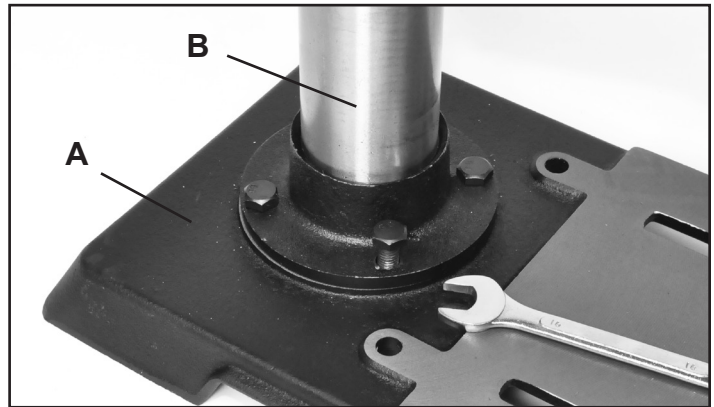

FIG. 1
1. Place the Base (Part #1, Figure 1, A) on a level floor where the machine will be used. FIG. 1.